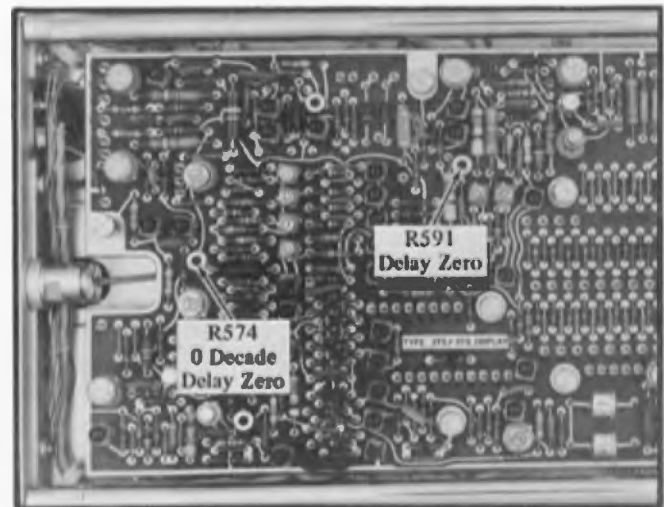

Fig. 5-17. Location of Delay Zero adjustments, instrument left side.
d. Change the MULTIPLIER switch through 1, 2 and 5 and adjust R591, Delay Zero, for minimum shift of the center time mark. See Fig. 5-17 for location.